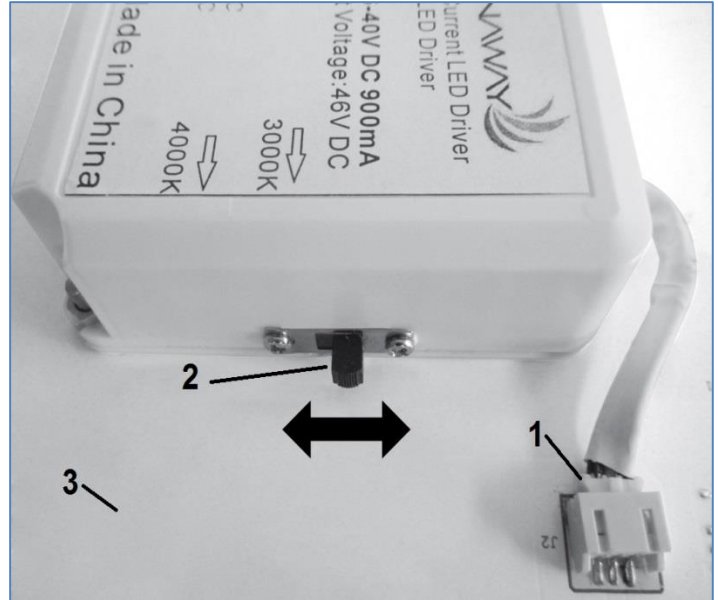
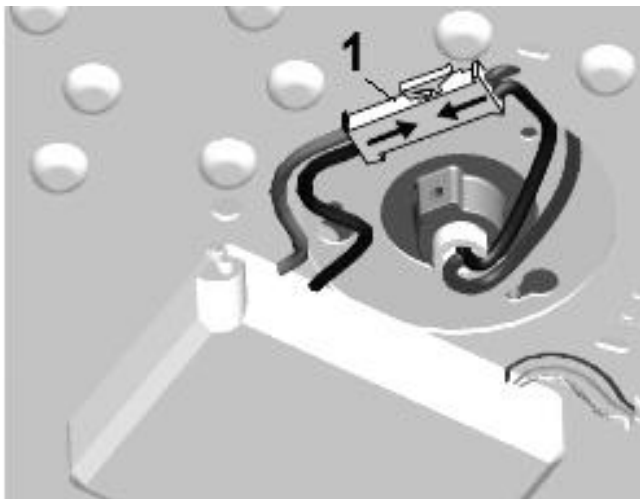

Fig. 7
Fig. 8
- 5) Connect the upper plug (1) from the driver to the lower socket (1) in the LED board (3). Fig.7
- 6) Select the color temperature (3000K or 4000K) by sliding the switch (2).
- 7) Connect the upper connector from the motor to the lower connector (1) from the driver. Fig.8